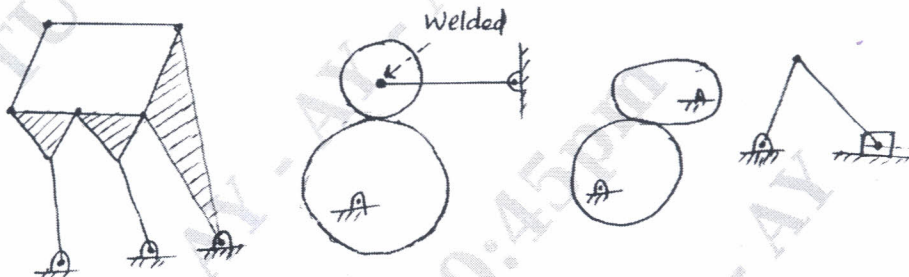

Fig.Q1(b)
- b. Determine the degree of freedom for the following Fig.Q1(b).